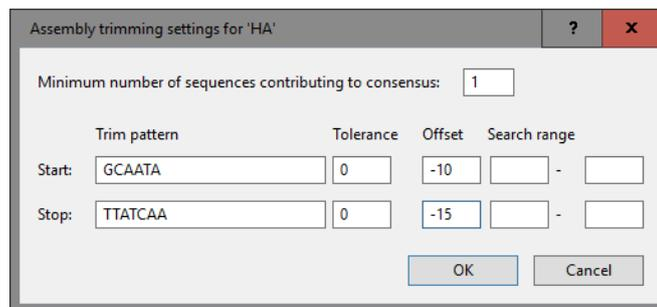

Figure 13: The *Assembly trimming settings* dialog box displaying the trimming settings for the HA sequence example data.
20. Double-click on the **<Edit>** button for experiment **HA** and enter the trimming settings as specified in Figure 13 and press **<OK>**.